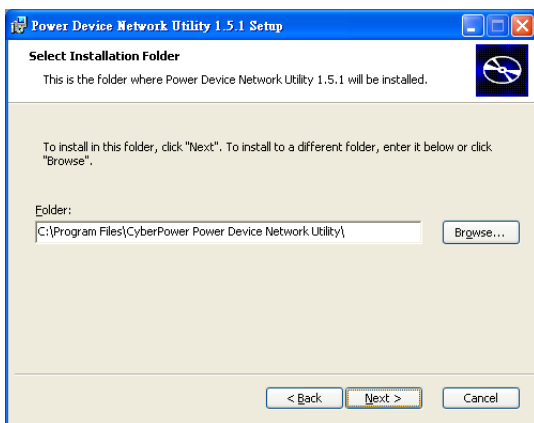

Figure 2.
Step 3. Choose an installation directory. Select Next (Shown in Figure 2.).